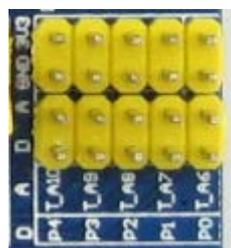

Figure 23: Sensor interface 4P
- 5) ARPI600 provides sensor interfaces 4P. Figure 23 shows the jumper settings for sensor interface 4P.